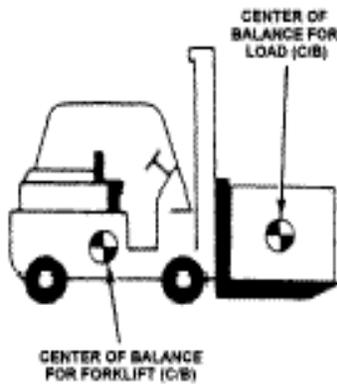
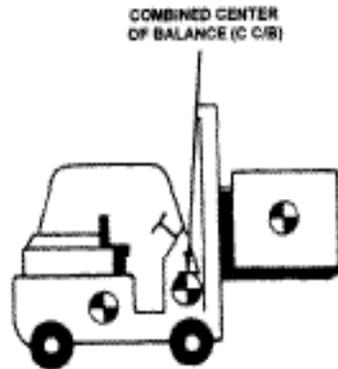
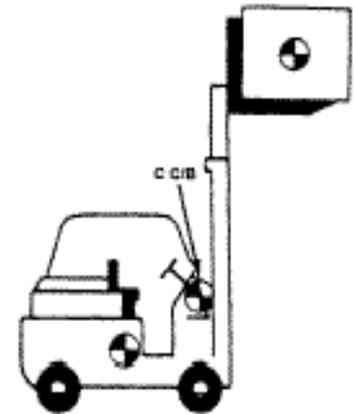

Fig. 8 C/B for Forklift and Load
Fig. 9 C C/B
Fig.10 C C/B Raised Load
**Center of Balance:** The center of balance (C/B) is a critical factor for capacity. On most forklifts, the C/B is under the operator's seat (Fig. 8). When a load is lifted, a combined center of balance (C C/B) is created (Fig. 9) but when the load is raised, the C C/B changes (Fig. 10). A forklift is designed to lift its maximum capacity with the load centered on the forks, not with the tip of the forks. You should know where the C/B is before trying to lift any. If the C/B is on one side, the load may flip off the forks once it's lifted. The C/B (of the load) should be placed directly in front of the C/B (of the forklift). Additionally, the C/B should be centered and placed as far back as possible on the forks.